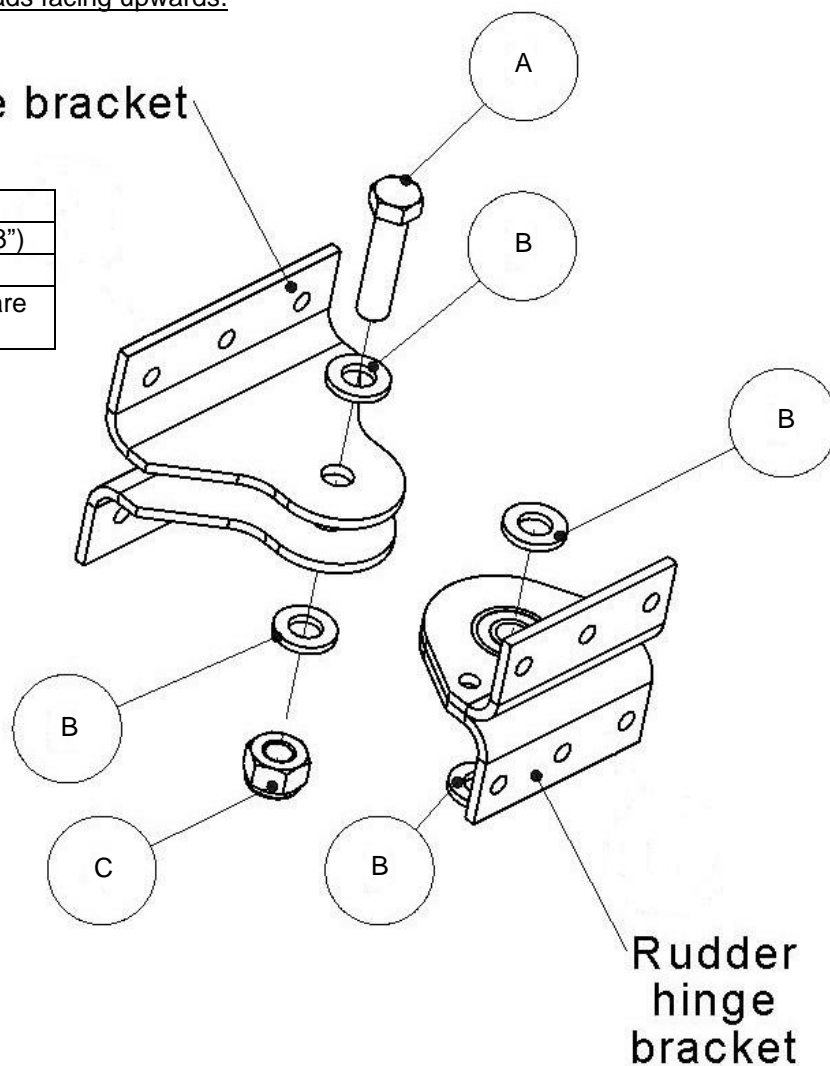

Figure 37: Rudder to vertical stabilizer hinge connection.
- Tighten the lock-nuts on the bolts through the rudder hinges sufficiently, observe the correct placement of washers (refer to Figure 37) and note that the bolts are installed with their heads facing upwards.